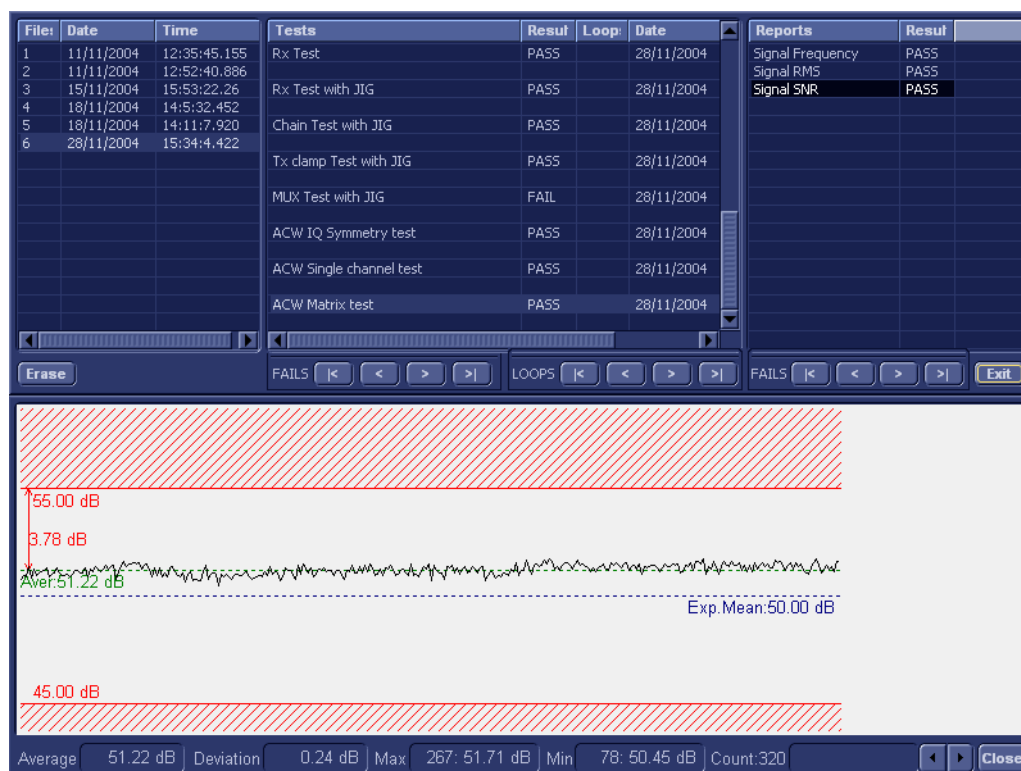

Figure 7-40 View Test Log - ACW Matrix Test - Signal SNR
- 11) Select the third report (*Signal SNR*); the report is highlighted in the *Reports* list, and the corresponding results are shown in the Report window below, as shown in Figure 7-40.